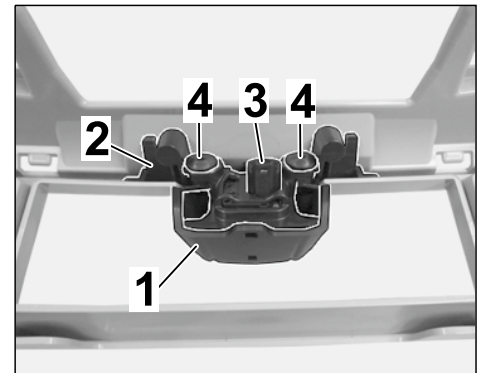

Figure 9
2.6.5 ONLY for vehicles with front and rear ParkAssist incl. reversing camera and Surround View (8A4): Convert trim with holder and front camera (⇒ *Figure 9*).